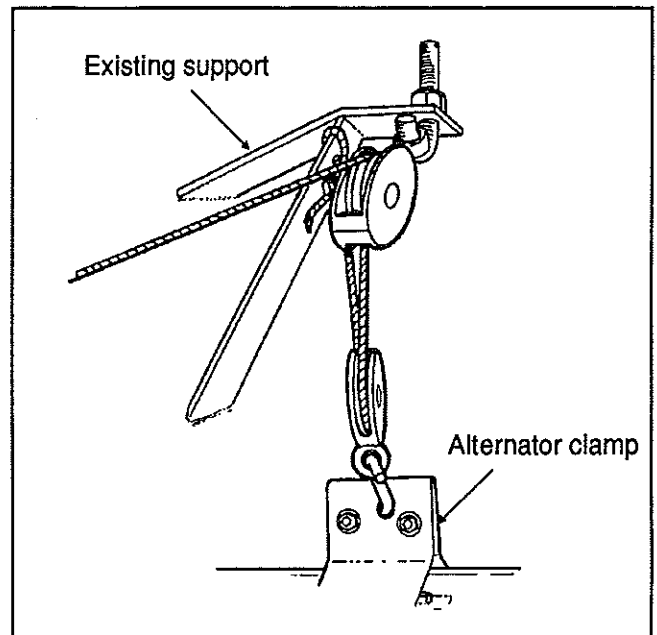

FIG. 28 - Recommended alternator supporting device installation
8. Fix a single sheave to the existing support over the alternator, and another one to the permanent clamp around the alternator (see fig. 28).
11. Route cable through upper sheave, then through lower sheave, and fix cable to the support over the alternator as shown in figure 28.